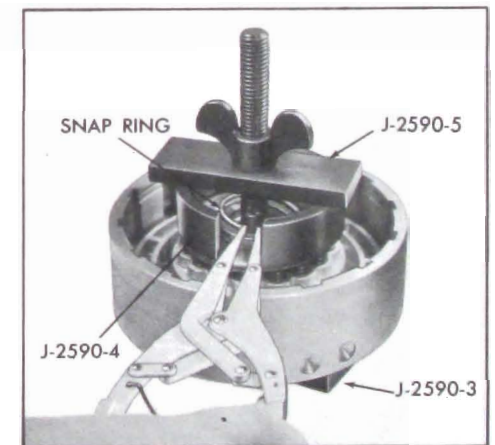

Figure 5-651
7. Using clutch compressor tool or J-2590, install snap ring. See Figure 5-651.
8. Install five (5) composition and five (5) steel clutch plates, starting with steel and alternating steel and composition. The steel plates must have the notches in